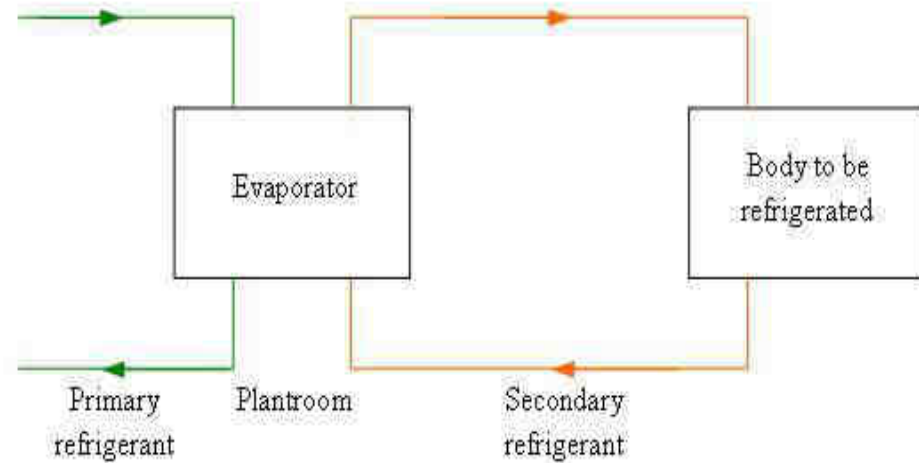

Fig.7-5, The secondary refrigerant used for distribute refrigeration
- ◆ In this type of arrangement, the secondary refrigerant is cooled by the evaporator and is then the cooled secondary refrigerant is pumped to the place where refrigeration is wanted as shown in Fig.7-5.